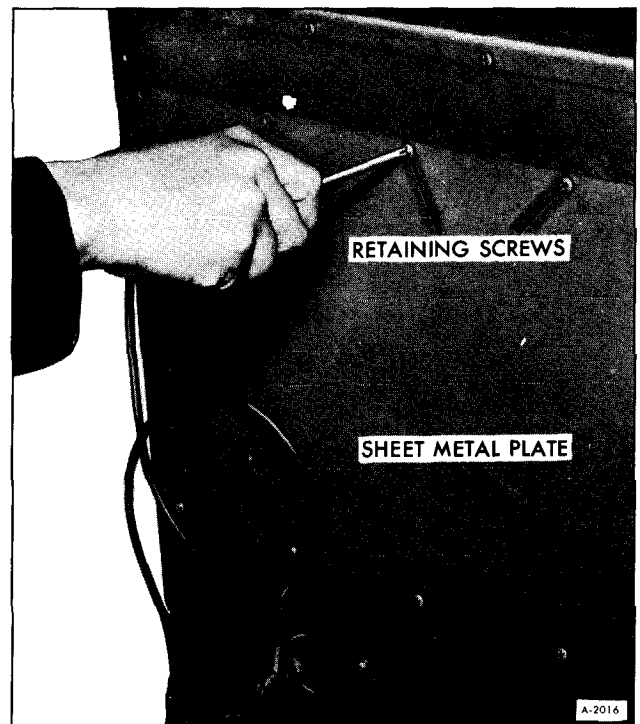

Figure 13—Removing Sheet Metal Plate
7. Remove sheet metal plate from back of refrigerator as shown in Figure 13.
7. Install sheet metal plate over rear opening (figure 13).